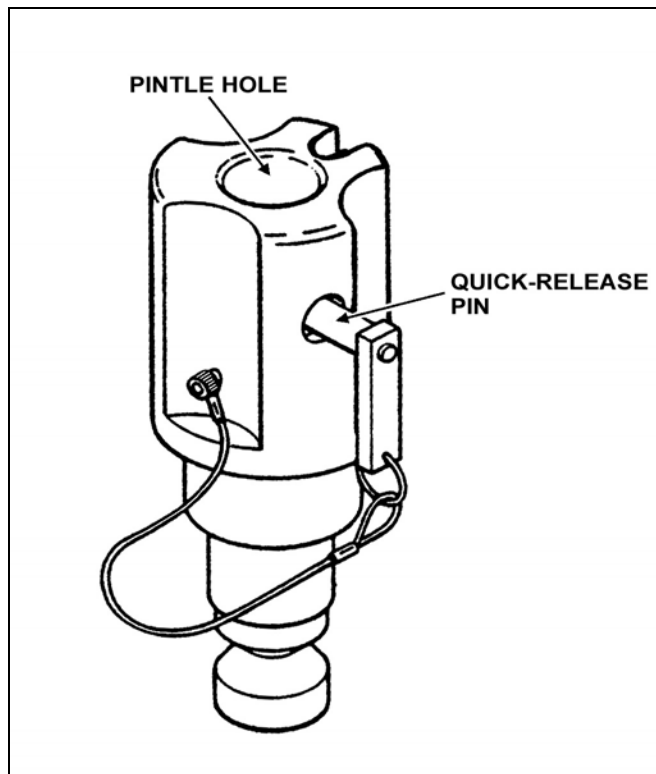

Figure 3-14. Pintle adapter.
(2) **Pintle Adapter.** The pintle adapter is used to mount the MK 19 in all vehicular modes (Figure 3-14). Other accessories are used to mount the MK 19 to specific vehicles. The upper end accepts the gun cradle's pintle, which is secured by a quick-release pin. The lower end of the adapter fits the mounting wells on the M4 pedestal, HMMWV weapon platform, M36A2 ring mount with M66 ring, and commander's cupola on the M113 APC.